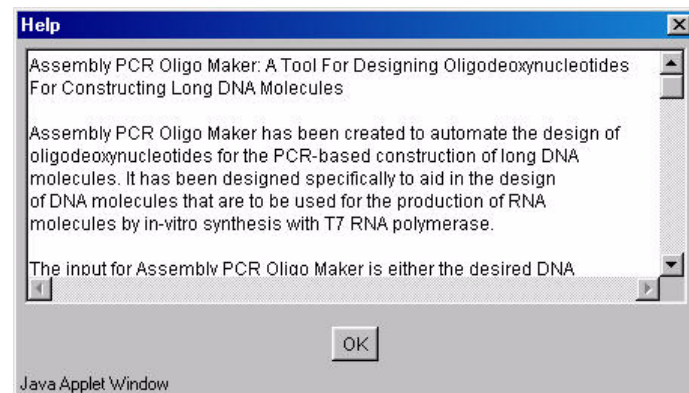

Figure 7. The Help window.
- 1 Click *Help > Help* again to open the help window, as shown in Figure 7.